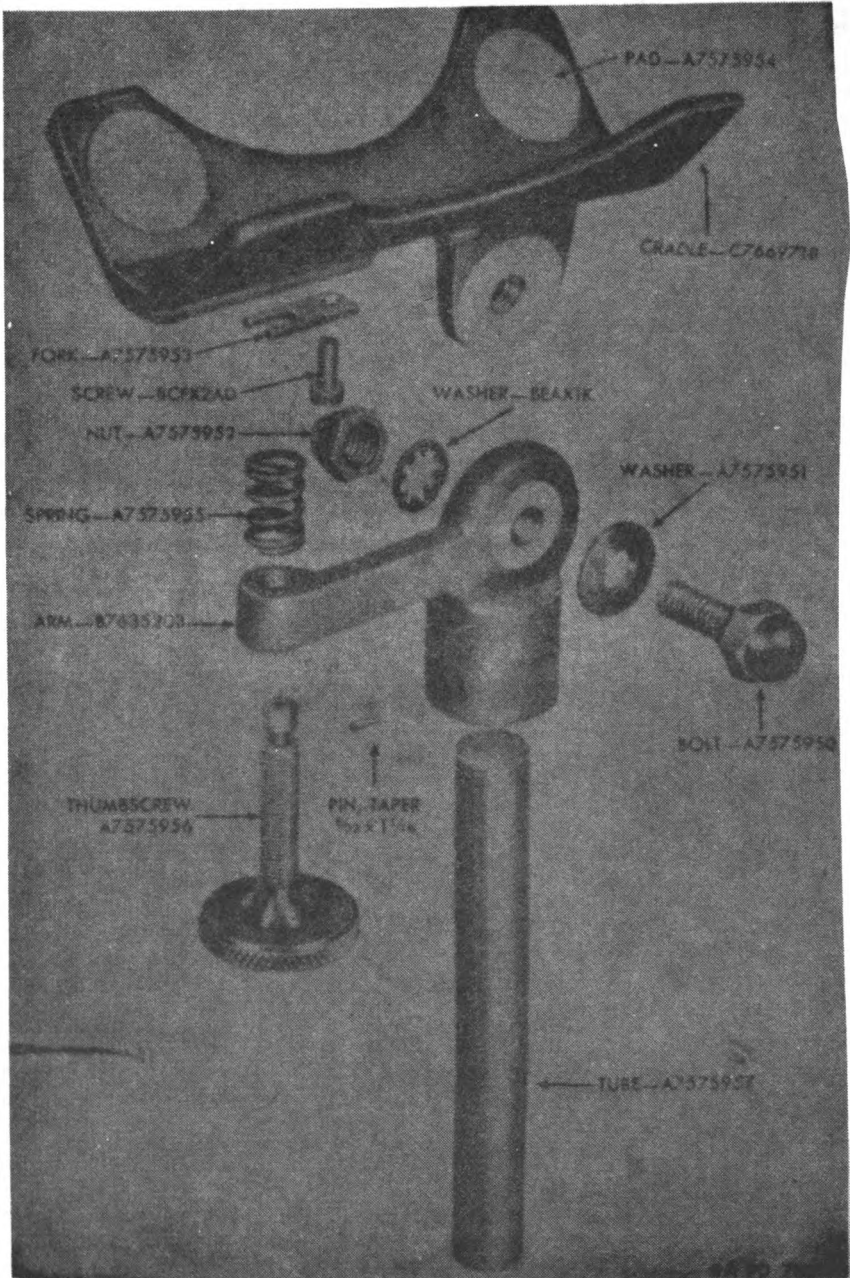

Figure 26—Tripod M15—Cradle Assembly—Disassembled
b. **Disassembly of the Cradle Assembly.** Remove nut and lock washer from end of bolt A7575950. Drive out the bolt and remove washer A7575951 (fig. 26). Take out the elevating thumbscrew A7575956. Take off the cradle, at the same time removing the compression spring from between the arm and the cradle. Take out screw BCFX2AD and remove the fork that it holds. Drive out the taper pin that secures the tube to the arm and remove the tube.